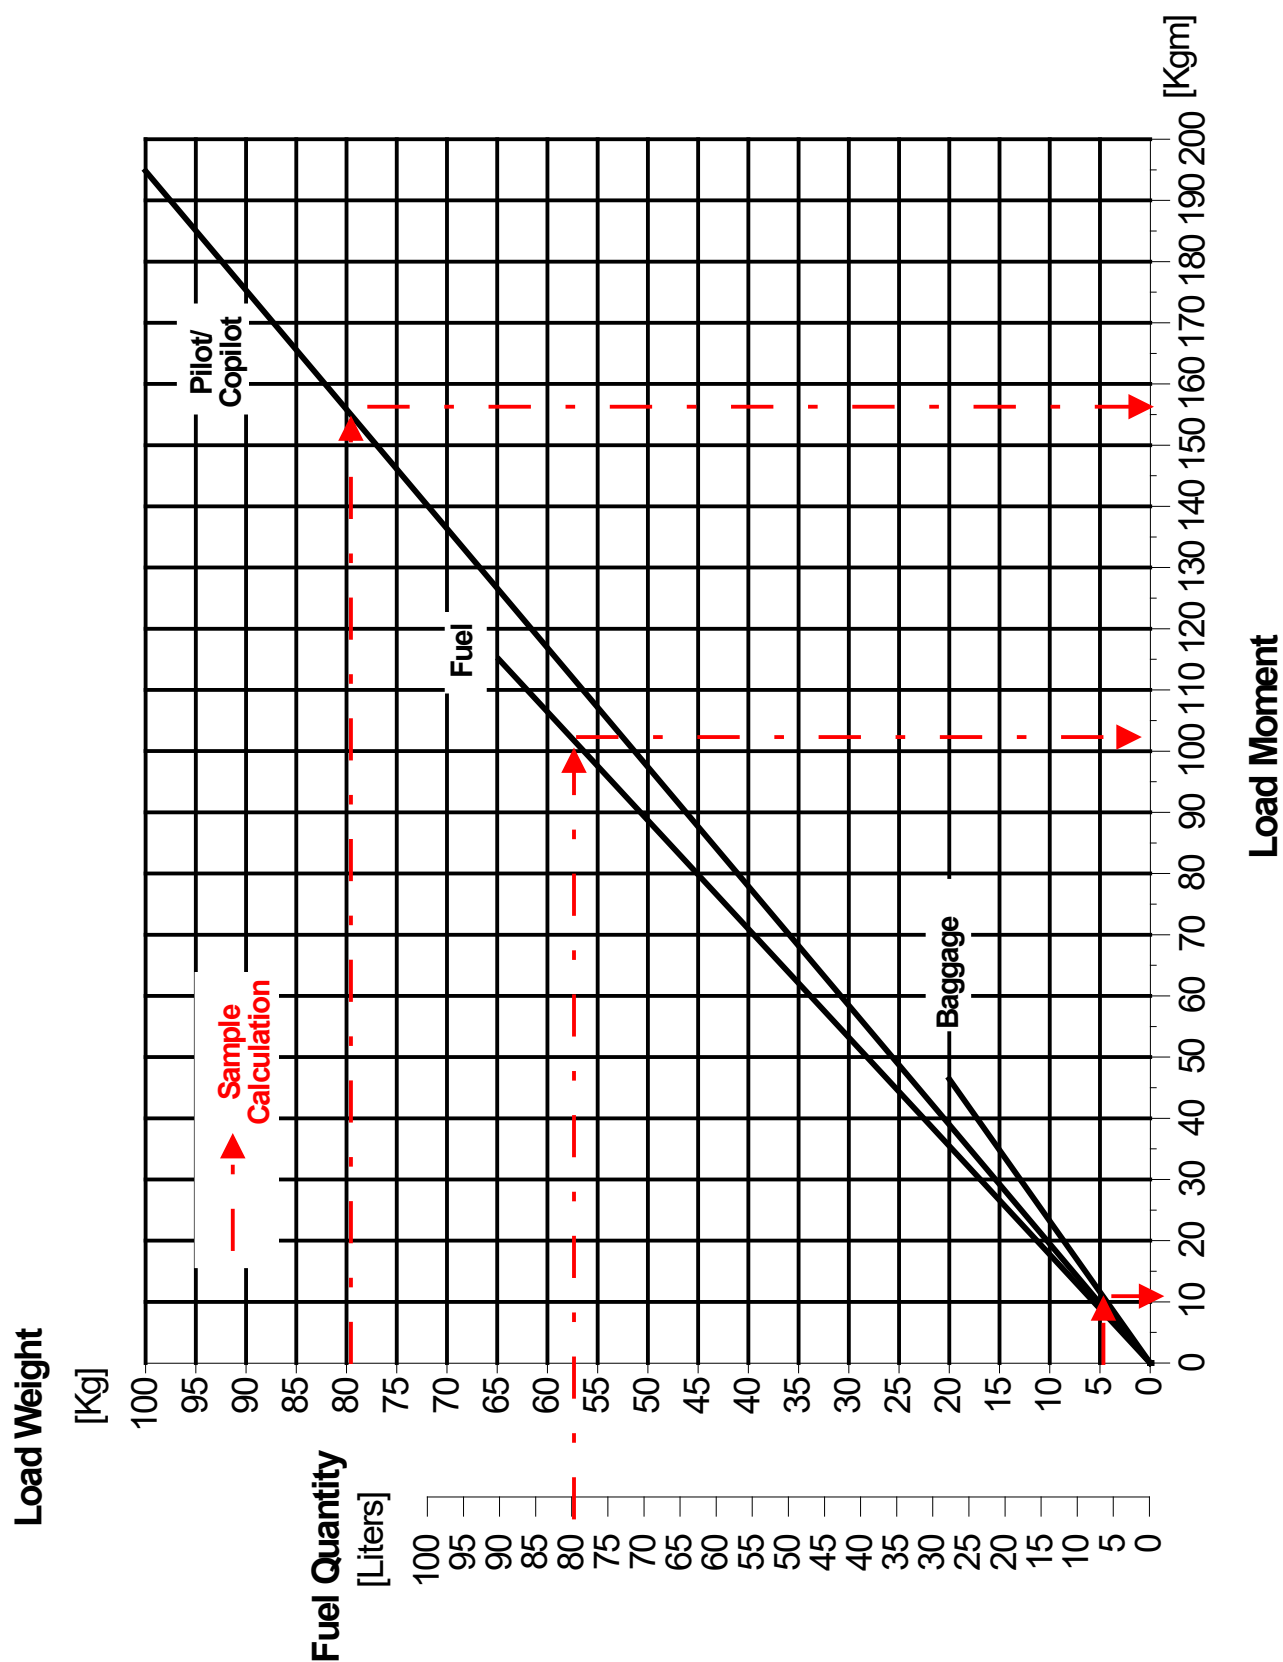

Fig.6.2 LOADING DIAGRAM
- Loading Diagram (Figure 6-2)